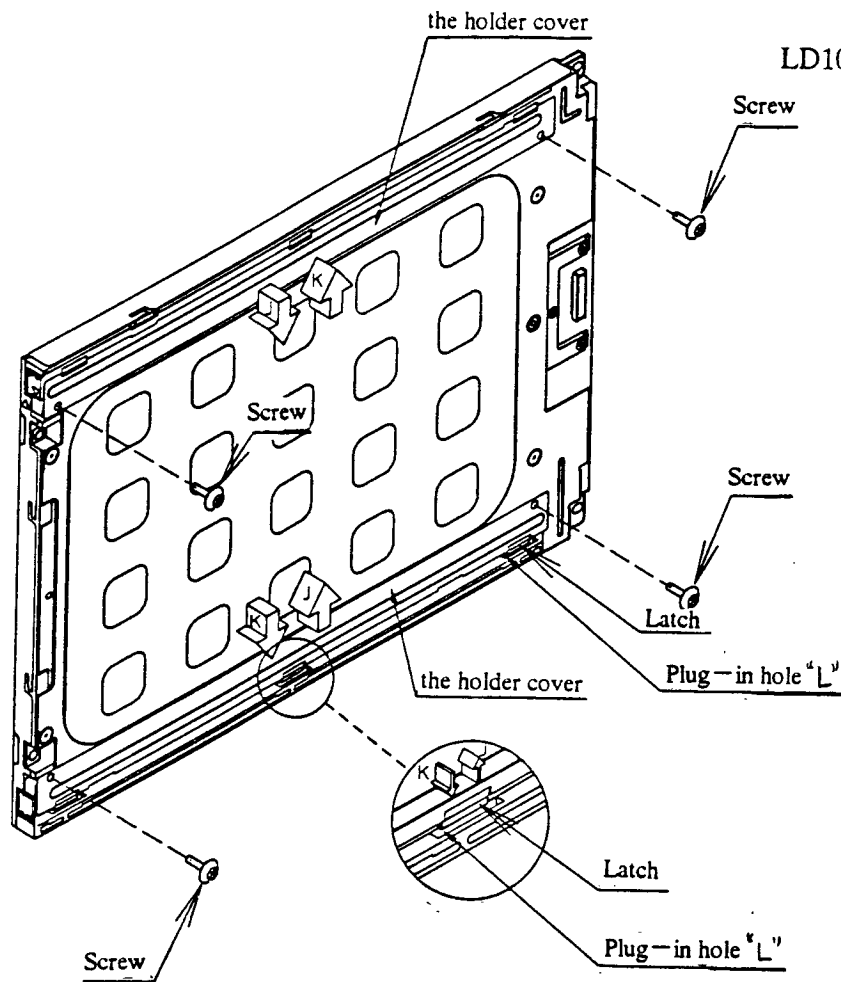
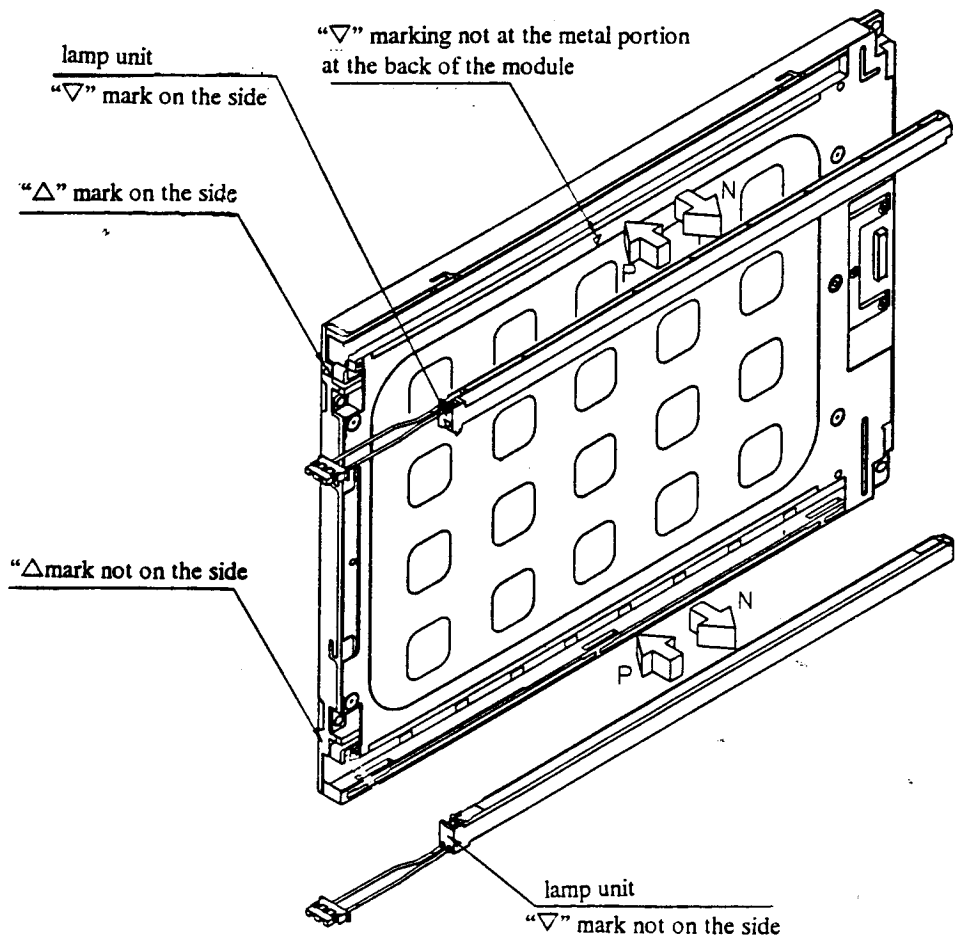

Fig. 4. Procedure to exchange backlight unit by back side
Fig. 5 Procedure to exchange backlight unit by back side
8- 2)By Backside (refer to Fig. 4 and Fig. 5)
- ① Remove 4 screws which holds the holder cover. (refer to Fig. 4)
- ② Slide the holder cover to the “J” direction. Then remove the holder covers.
- ③ Remove the Lamp units. (refer to Fig.5)
- ④ Replace the new lamp unit with the one that has a marking “▽” on the surface. And the other new unit with no marking on it.
- ⑤ Slide the holder cover to the “K” direction and place the latch to the plug-in hole “L”, located by the LCD module.
- ⑥ Tighten the 4 screws to fix the holder cover along the screw gap of hole. The screw torque should be maximum 2kgf · cm. If you tighten the screw over 2kgf.cm, the screw should be destroyed. Please be careful.
- ⑦ Please insert the lamp with care while replacing. Please be careful for any dust that goes in. Please make sure that the lamp unit is in all the way.
- ⑧ Not only one side ,both lamps should be exchanged.